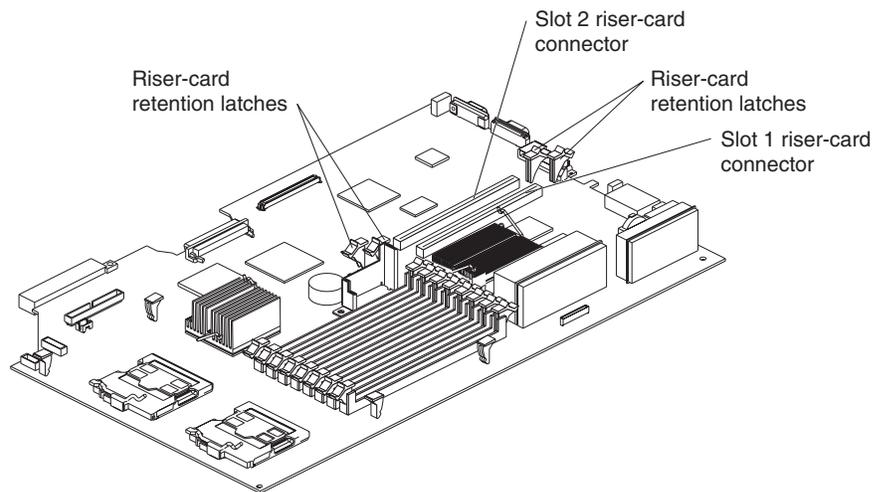

Figure 19. Adapter connectors and latches
Figure 19 shows the location of, and access to, the riser card retention latches for the slot 1 and 2 riser cards.
5. Determine which slot you want to use for the adapter, either slot 1 for a low-profile adapter or slot 2 for any type of adapter. See Figure 19 on page 36 for the locations of slot 1 and slot 2 on the system board.